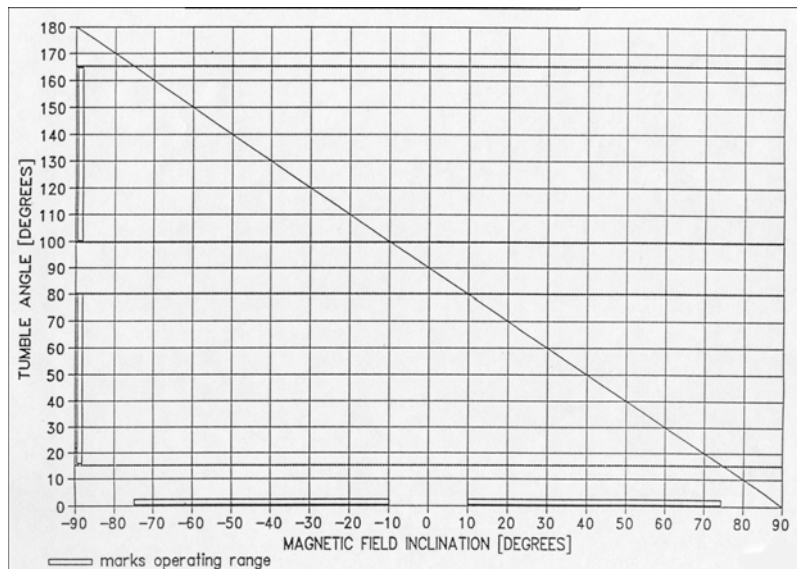

Figure 7 - Plot of tumble angle versus magnetic field inclination. Sensor inclination is 90°. Any sensor azimuth can be used.
The vehicle conducts a magnetic survey by moving on the well defined survey grid consisting of parallel survey lines. If the survey lines are oriented in the NW direction, for example, the survey vehicle may travel either in the NW or SE directions shown in Figure 7 on page 3-9.
Several times during a survey day, a tie line may be used as shown in Figure 7. The tie line is generally flown at 90° to the survey line, which would be in our example either in the NE or SW direction. The magnetometer sensor orientation must be selected so that it performs well on the direction parallel or antiparallel to the survey line, and parallel or antiparallel to the tie line, which is perpendicular to the survey line.
As it will be seen in the next section, **orienting the CS-3 is simple: with only two settings one can survey the entire Earth's surface.** However, in order to gain more insight, the tumble angle, equation (3), is evaluated, over the entire range of the magnetic field inclinations, for two sets of sensor azimuths, and five values of sensor inclinations. The results are shown on graphs, Figures 7 to 16.
The operating range of the magnetic field inclinations, for which the tumble angle is inside the active operating zone, is indicated by horizontal arrows in the graph. The sensor orientation shown in the Figure 7 is very useful because it covers most of the Earth's surface with the exception of polar and equatorial regions.
2. The orientation in Figure 7 on page 3-9 with sensor inclination 90 degrees, for the regions between polar and equatorial regions. These orientations provide enough overlap at both ends: regions with field inclinations N/S from 53° to 75° and inclinations N/S from 10° to 22° could be surveyed by either sensor orientation setting 1) or 2).
The graphs shown in Figures 7 to 16 apply for the locked oscillator as well while taking into the account the operating range specified by relationship (4) and (5).
1. the orientation in Figure 7, with sensor inclination 90 degrees, for the ambient field inclinations from 25° to 90°.